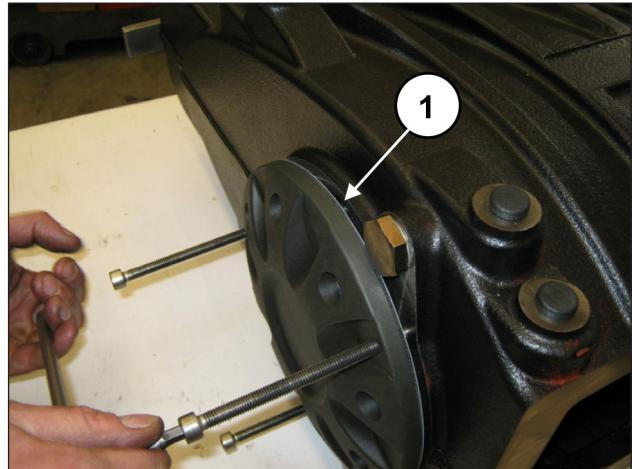

Fig. 29
Slowly screw in the 3 M8 screws (pos. ①, Fig. 29) to prevent that the cover can tilt too far and get locked in the housing. Remove the bearing cover while supporting the shaft to prevent damage (pos. ①, Fig. 30).